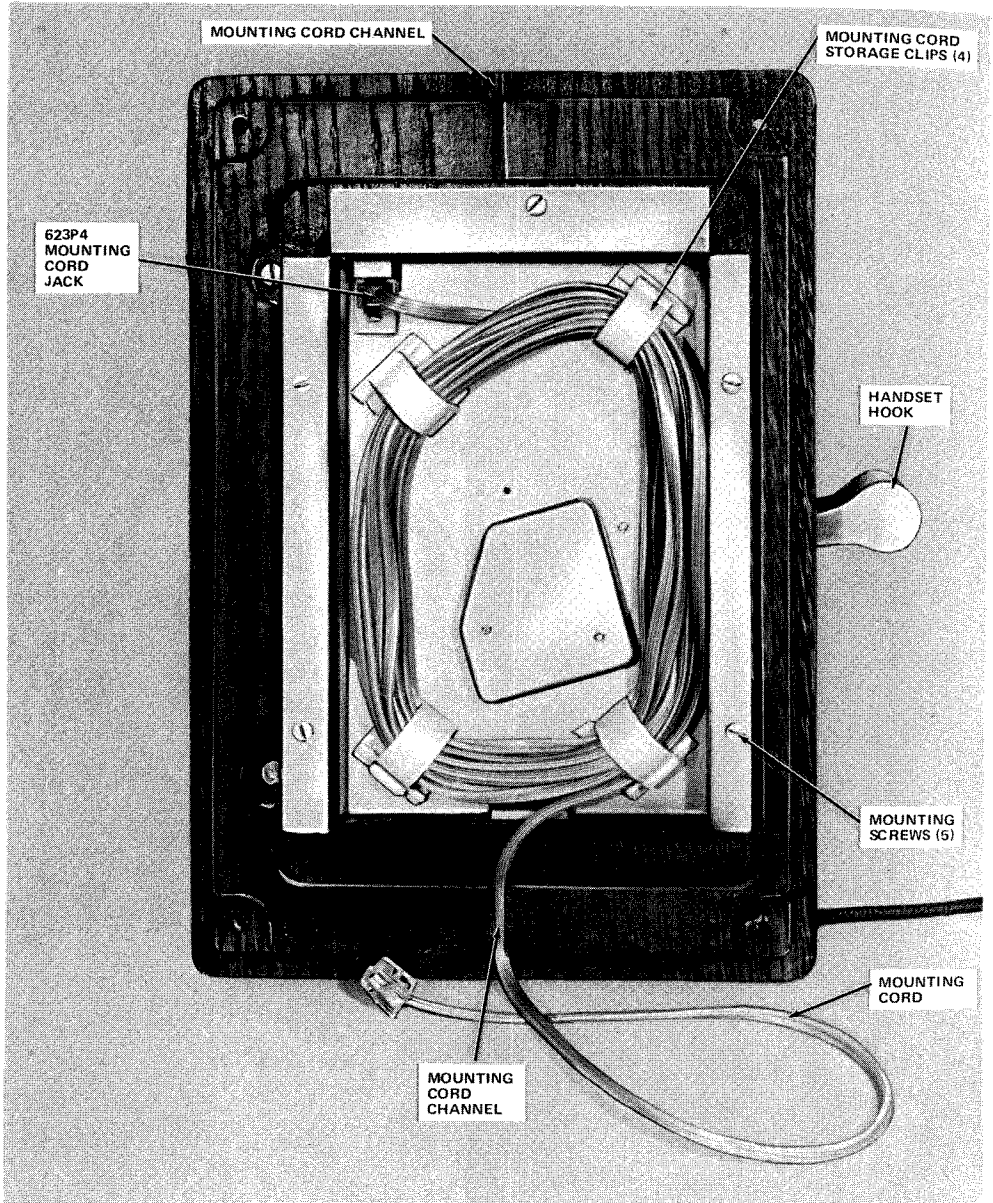

Fig. 2—951A1-03 Telephone Set, Rear View
- Reverse Fig. 2 and 3.
**2.02** The 951AS1-03 telephone housing (customer-owned) is made of Oak Wood and has antique nickel metal trim details. The inside of the set consists of a 951AT telephone unit which is screw mounted through the rear of the telephone set (Fig. 2).
**2.03** On the recessed rear of the set are four plastic cord clips which are to be used to store any excess cordage from the mounting cord (Fig. 2).
- (3) Drill four 5/16-inch diameter holes and install the wall screw anchors provided.
- (4) Discard the four screws used to install the wall anchors.
- (5) Wind up the excess mounting cord on the four plastic storage clips on the rear of the set. Leave about six inches of cord loose (Fig. 2).
- (6) Plug in the end of the mounting cord and secure the set to the wall anchors using the four decorative screws and washers provided.
- (1) Make sure the intended mounting location will allow the 14-foot mounting cord to reach the telephone outlet.
- (2) Place the template at a convenient height and level it.
- (3) Mark the two upper and lower mounting holes on each corner of the template.
- (4) Drill four 5/16-inch diameter holes and install the wall screw anchors provided.
- (5) Discard the four screws used to install the wall anchors.
- (6) Wind up the excess line cord on the four plastic hooks on the rear of the set housing (Fig. 2).
- (7) Dress the mounting cord into the channel on the back of the telephone set (Fig. 2).
- (8) Secure the set to the wall anchors using the set of four decorative screws and washers provided.
- (9) Dress the mounting cord to the 625-type modular connecting block and plug in the cord.